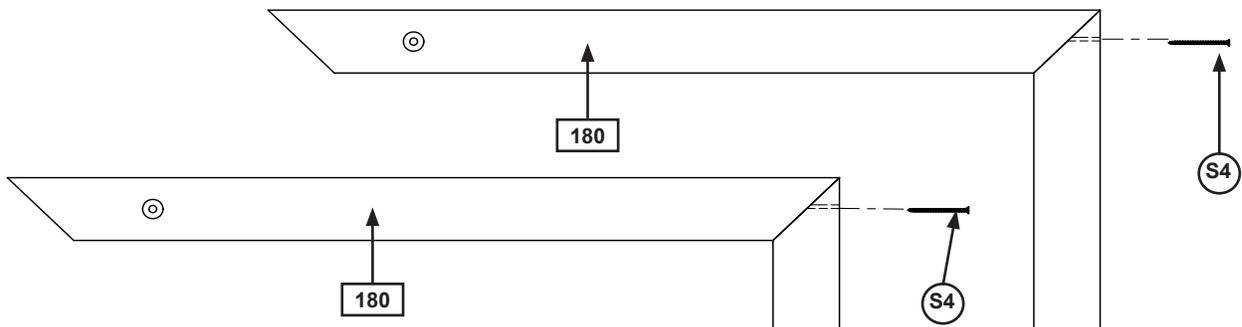

Fig. 18.1
A: Attach 1 (180) Left Roof Support to 1 (181) Right Roof Support at peak using 1 (S4) #8 x 3" Wood Screw. (fig. 18.1)